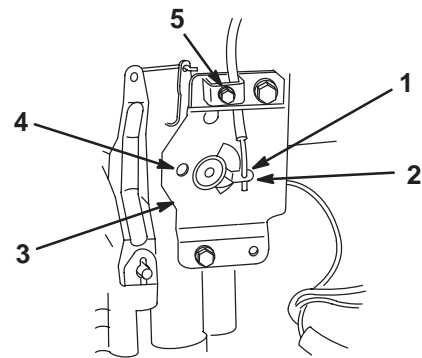

Figure 7
1. Move the throttle control lever to the **Fast** position (Fig. 7).
2. Hook the wire Z-bend into the hole of the speed control lever (Fig. 7).
3. Loosen the cable clamp screw (Fig. 7).